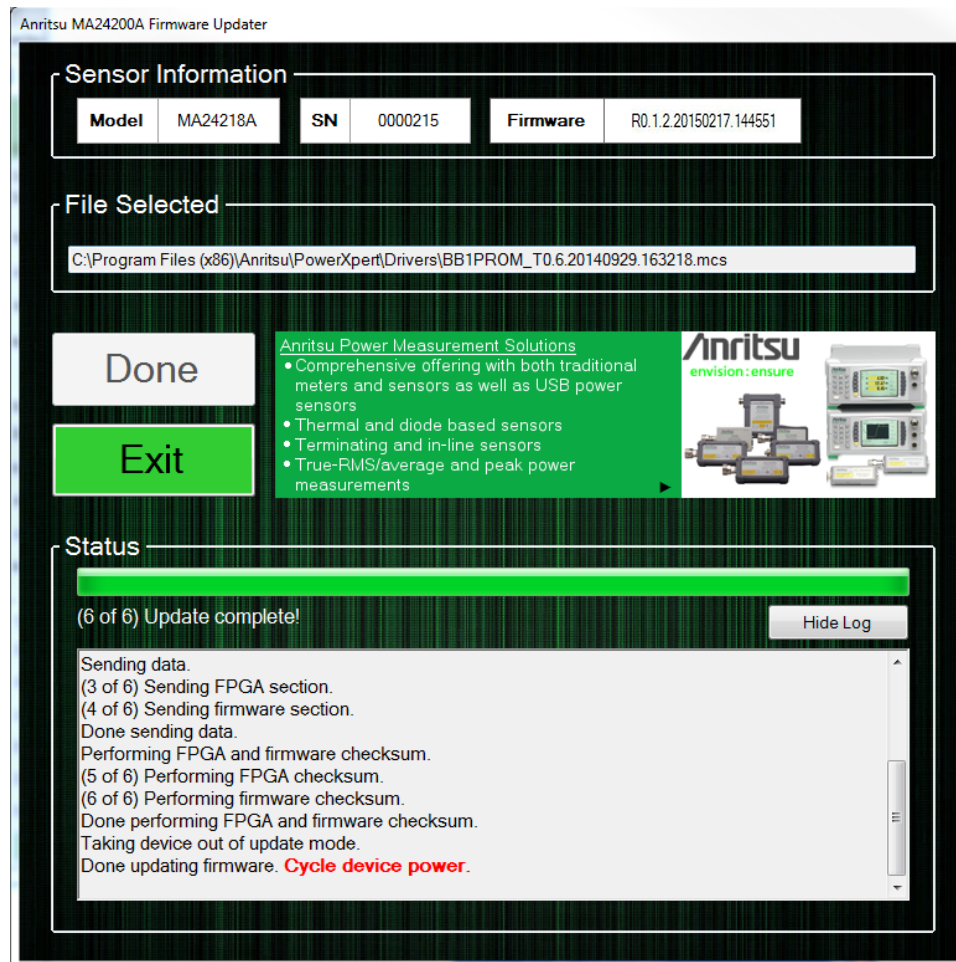

Figure C-7. Firmware Updater Complete Screen
6. The Exit button highlights when the firmware update process is complete. Figure C-7.